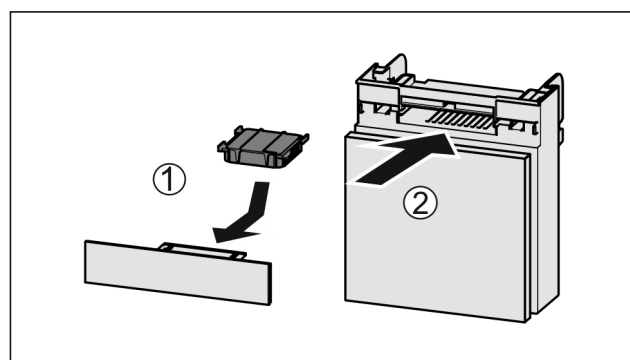

Fig. 128
- ▶ Insert the carbon filter as shown in the diagram Fig. 128 (1).
- ▶ Push the compartment in Fig. 128 (2).